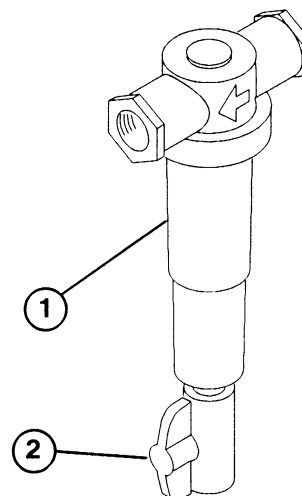

Figure 11
7. If desired, the valve on the pre-filter (Fig. 11) may be opened slightly (cracked) to provide continuous flushing during machine operation.